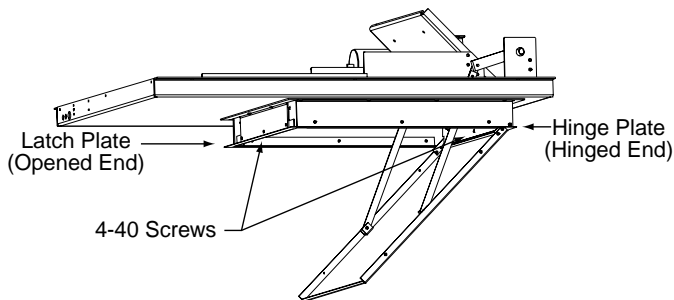

Figure 2
- ② Remove brackets at each end of the slots by loosening screws and sliding bracket off. Leave screws attached to make it easier to reattach brackets.
- ③ Open the Revelation door.
- ④ Disconnect power to the Revelation.
- ⑤ Remove three 4-40 Philips flat head screws in door trim frame at both the hinged and opened ends of Revelation door (see Fig. 2).